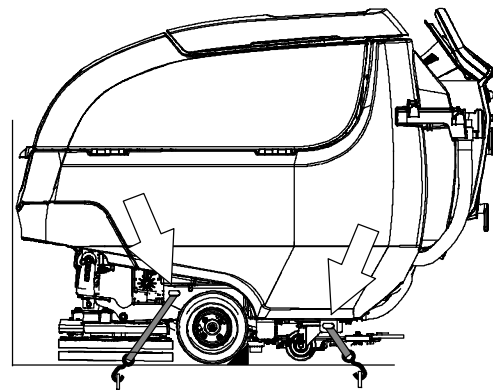

FIG. 142
4. Place a block behind each wheel (Figure 142).
5. Using tie-down straps, secure the machine using the four tie-down brackets located on the machine frame (Figure 142). It may be necessary to install tie-down brackets to the floor of your trailer or truck.